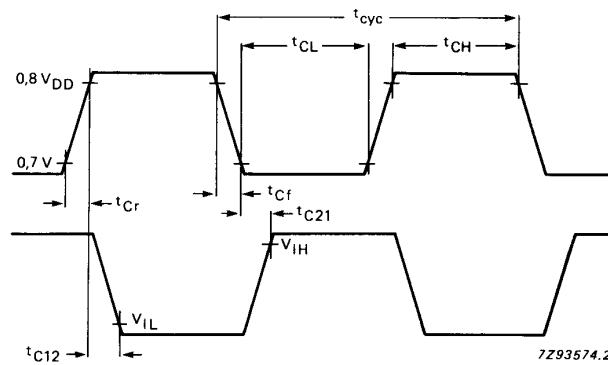

Fig.52 Input clock timing when external clock used.
**CLOCK TIMING** (see Figs. 52 and 53)